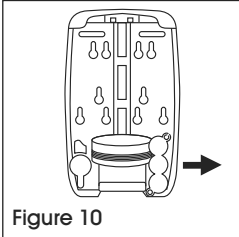

Figure 10
2. Remove battery box cover. (See Figure 10)